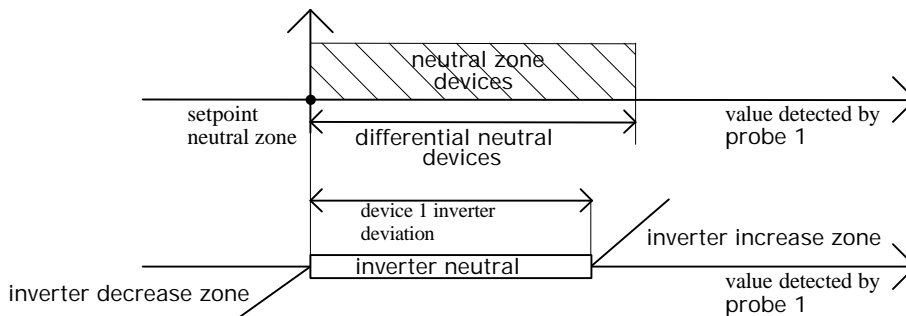

Figure 14
**Sr1 - device 1 inverter step (see figure 14).**
**Sr2 - device 1 inverter deviation (see figure 14).**